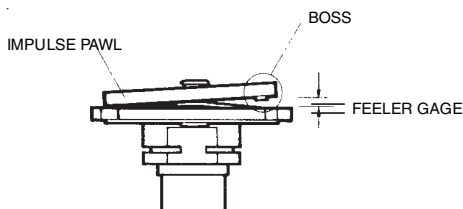

Figure 3.3.4D
12. Maximum clearance for pawls with one (1) boss is 0.150 inch. Maximum clearance for pawls with two bosses is 0.150 inch for left-hand rotation couplings and 0.140 inch for right-hand rotation impulse couplings. If the feeler gauge can pass between the full width of the boss and the pawl plate, replace the impulse coupling. See Figure 3.3.4D. For coupling rotation, see magneto data plate.